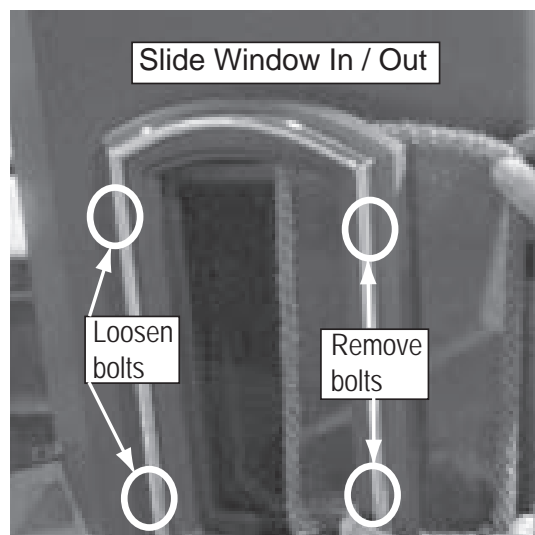

Figure 33.1
3. Only remove the 2 bolts, top and bottom on the side closest to the firebox opening. **Figure 33.1.**